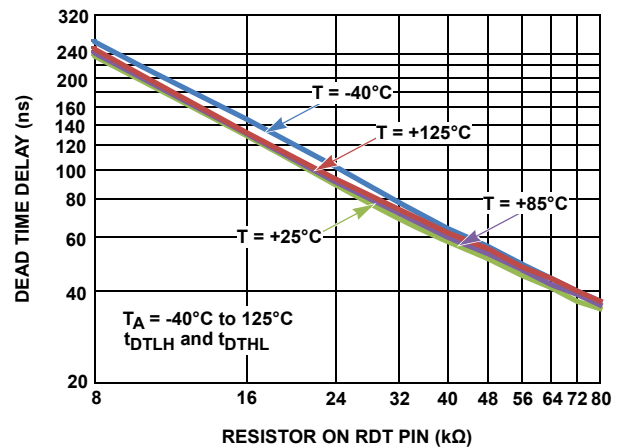

FIGURE 8. DEAD TIME DELAY VS RDT RESISTOR
When the PWM input transitions high or low, it is necessary to ensure that both bridge FETs are not on at the same time to prevent shoot-through currents. The ISL78420 programmable timers delay the rising edge of the high-side (HO) and low-side (LO) gate drives so that both FETs are off before one of them is turned on. The dead time delay on the rising edge of LO and HO is programmable with a single resistor from the RDT pin to VSS. The dead time is adjustable from 35ns ($R_{RDT} = 80k\Omega$) to 220ns ($R_{RDT} = 8k\Omega$). It is not recommended to use resistors beyond these values. The dead time is set equal on both falling edges of LO and HO. See "Timing Diagram" on page 6 for the definition of dead time delay. See Figure 8 on page 7 for the programmed dead time vs resistor value.